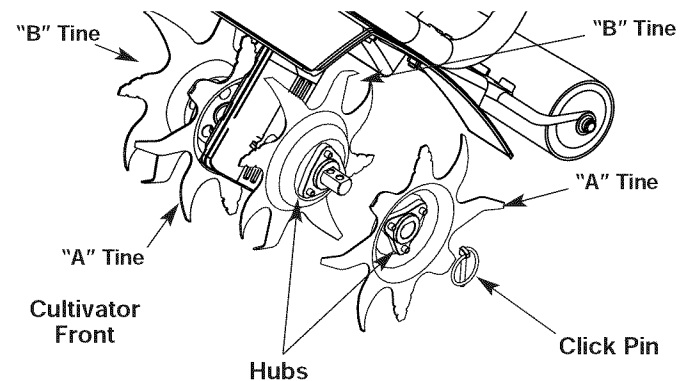

Fig. 12a
- Put the On/Off Stop Control in the STOP (O) position and disconnect the spark plug boot from the plug.
- Remove the click pin from each end of the tine shaft. Slide the tines off the shaft (Fig. 12a).
- Using Figures 12a and 12b for reference, slide on the new tines with the **hubs facing outward**.